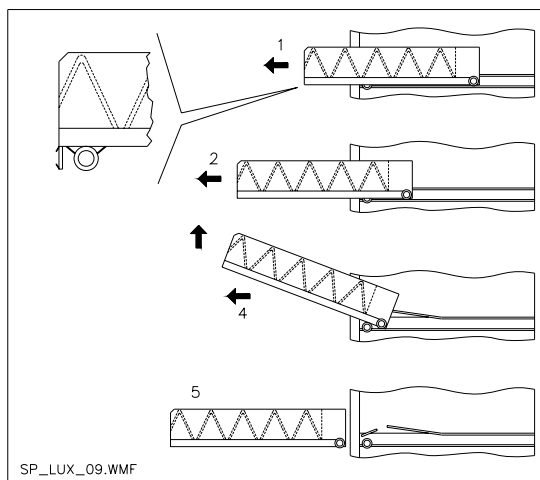
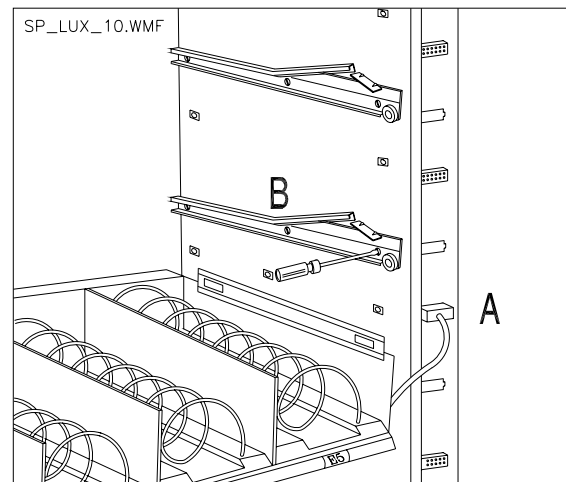

FIG. 8
FIG. 9
9.4 PROCEDURE FOR REMOVING THE TRAYS (FIG. 8 - 9)
To remove the tray, proceed as follows: 1) Open the main door. 2) Switch off placing the main switch in position "off". 3) Disconnect the electric connector -A- fig. 9. 4) Remove the tray by forcing the clamp of the positioning spring. 5) Pull the tray till the stop, lift it upwards, then rotate it downwards till the guide unhooks. Remove it from the machine fig. 8. To mount another tray proceed as follows: 1) Insert the tray. 2) Push till the tray sets itself into clamping position. 3) Insert the electric connector -A- fig. 9. 4) Put the machine on by positioning the switch to "on". 5) Close the main door.
9.5 TO ALTER THE NUMBER OF TRAYS (FIG. 9)
The number of trays of the machines supplied with 6 trays can be changed. To change from 6 to 7 trays proceed as follows: 1) Open the main door. 2) Switch off placing the main switch in position "off". 3) Take out all the trays. 4) Displace the guides ref. B (the last from the bottom is already in the right position and is therefore not to displace). 5) Displace the connectors, ref. A fig. 9, placed on the edge of the cabinet. 6) Remove a pair of guides and a connector wiring. 7) Re-assemble 7 trays checking that the clamping spring is engaged and the connectors well inserted. 8) Set the new prices.